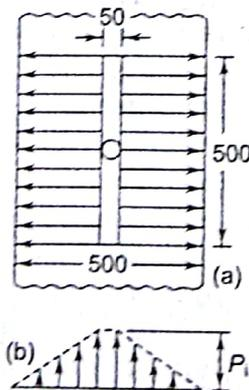

Fig. 16.35
16.2 ③ The developed view of a hydrostatic bearing is shown in Fig. 16.35 (a). Consider the flow in the direction shown by arrows and neglect the flow in the other direction and over corners. The pressure distribution is linear as shown in Fig. 16.35 (b). The thrust load is 500 kN and the film thickness is 0.2 mm. The viscosity of the lubricant is 500 cP. Calculate the supply pressure and flow requirement. [LO 3]